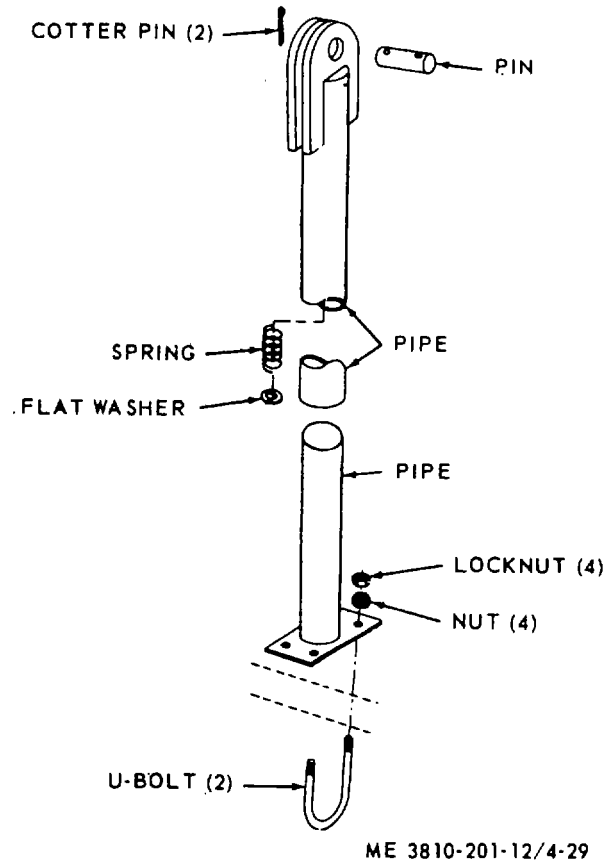

Figure 4-29. Backhoe safety backstop, removal, disassembly, reassembly, and installation.
(1) Separate the two pipes by pulling smaller out of the larger (fig. 4-29).
(2) Remove washer and spring from the larger pipe.
(3) Reassemble by reversing procedure in steps (2) and (1) above.